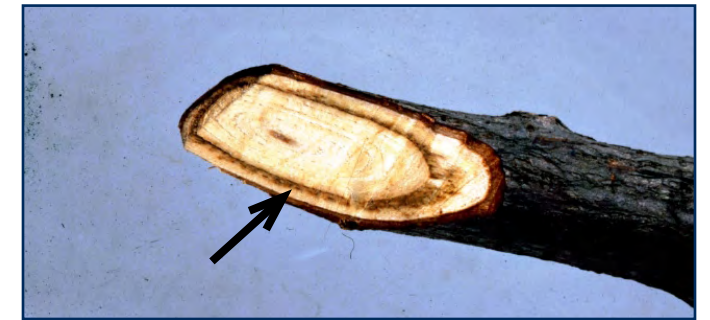

Fig. 6. Cross section of Dutch Elm Disease-infected branch; notice the brown, diagnostic streaking.⁶
Symptoms can appear anytime throughout the growing season. Within the tree, branches and stems of DED affected trees will show dark streaking in the xylem (wood) vessels, or sapwood in newly formed branches (Fig. 6). Tree death may require 1 or more years depending on the severity of the infection and susceptibility to DED. Keep in mind other diseases and disorders can cause similar yellowing/shriveling of leaves in elm, including: elm yellows, bacterial leaf scorch, and nutrient deficiencies such as iron chlorosis.
If flagging is noticed in the tree canopy, it is advised to take a sample from the affected branches and cut a cross section out of a branch. If there is a brown streak or ring present, then DED is likely present (Fig. 6). Flagged branches can be cut back below the level of the discoloration to stop or slow the spread throughout the canopy. Pruning should occur immediately after wilting symptoms appear. For best results (67% success rate), pruning 10 ft or more below the last area of streaking is recommended (2). Best control is achieved by pruning far below all evidence of streaking and removing all points of infection. Success of pruning to remove disease is greatest when less than 5% of the tree canopy is affected. The odds of successful pruning decrease with an increase in affected canopy, reaching a 0% chance of success when there is over 20% canopy infection (2). Full tree removal is also an option.